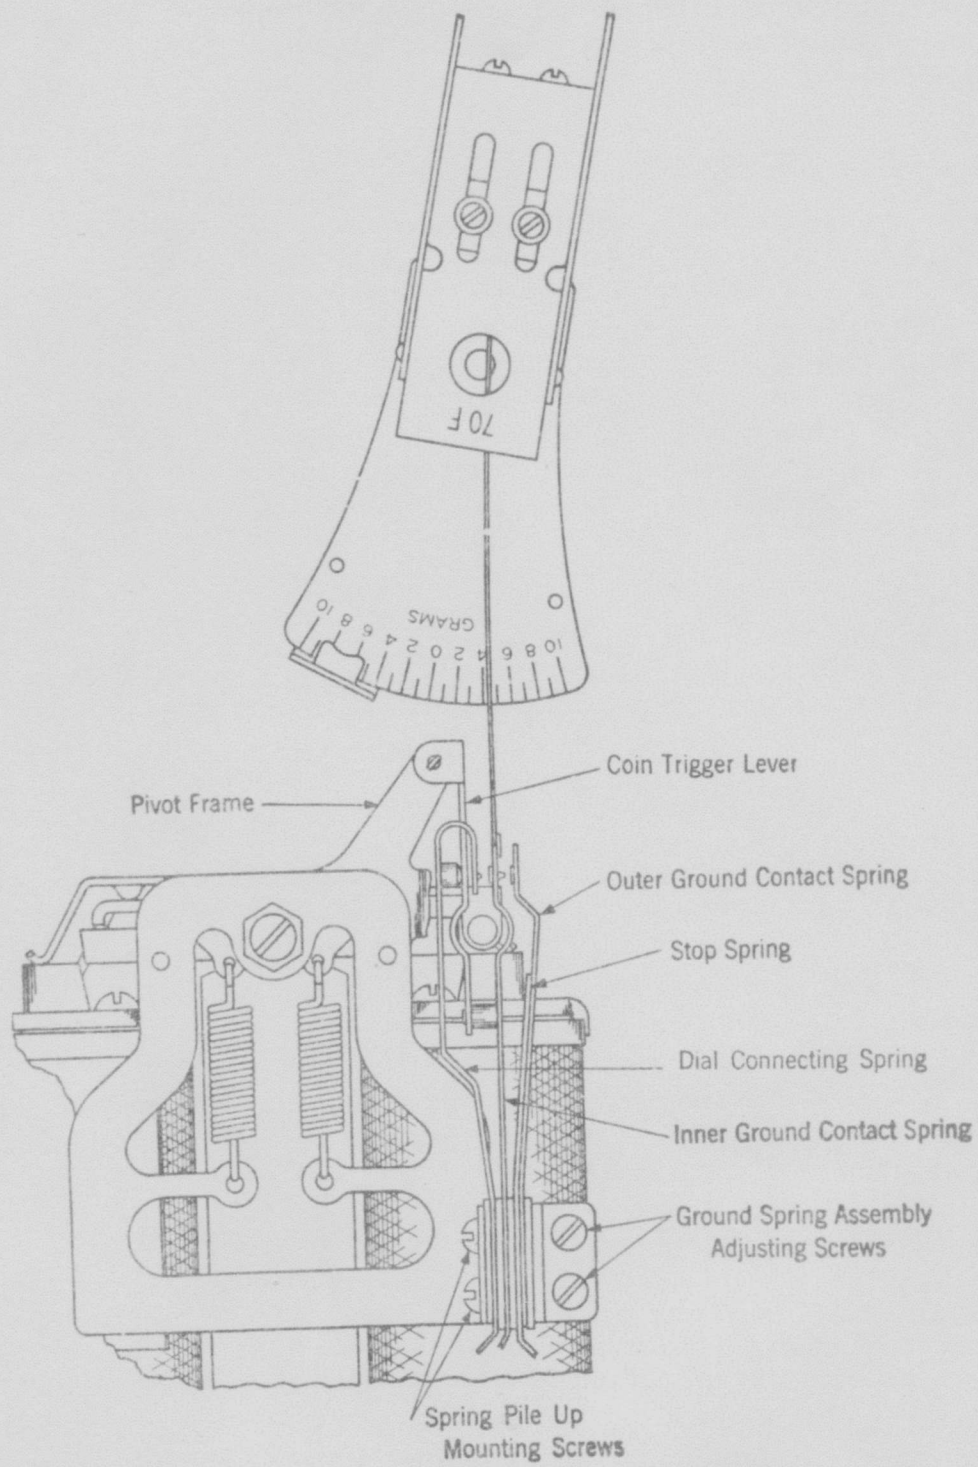

Fig. 2
3.05 With the coin trigger tripped and the armature in the normal position, the force required just to open the contacts between the inner and outer ground contact springs shall not be less than 3 grams. This pressure shall be measured with No. 70F gauge as shown in Fig. 2.